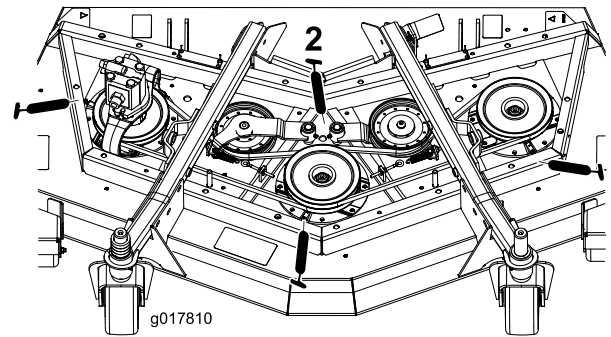

Figure 38
- 3 spindle-shaft bearings—located under the pulley (Figure 38)
- 2 idler-arm-pivot bushings (Figure 38)